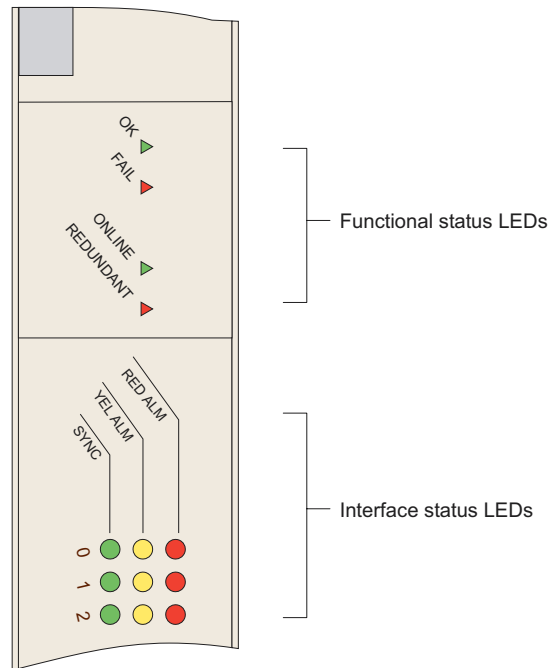

Figure 10-3 E3 and T3 module LEDs
- Other line modules (Figure 10-3)